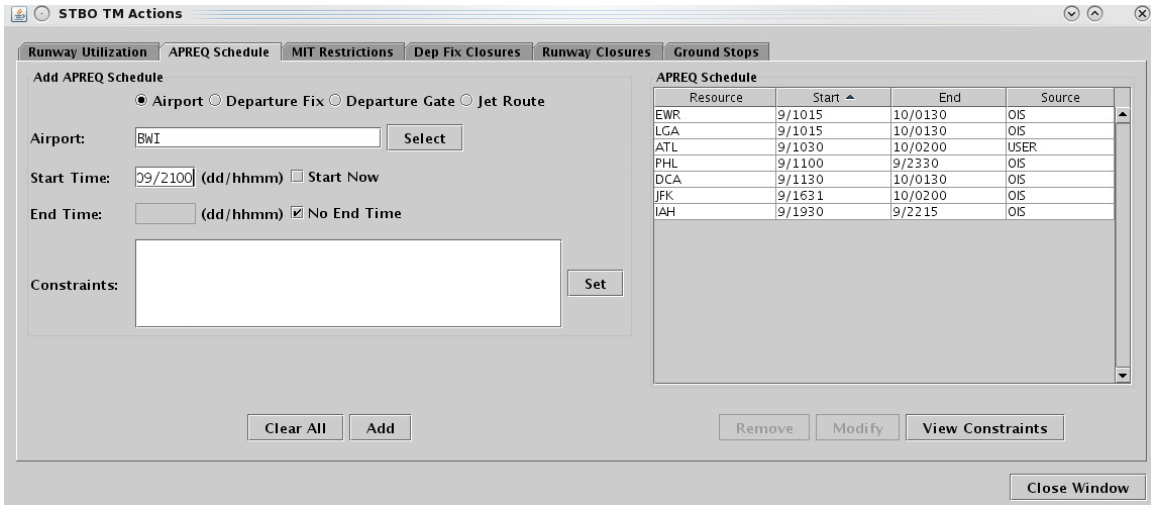

Figure 105. Select start and end times, constraints, and add the APREQ restriction.
**Step 4:** If the change is starting in the future, uncheck “Start Now” and enter a time in the “Start at” text box (Figure 105). Times must be entered in the (dd/hhmm) format. If the times crosses over 0000, the date must be changed. So, for example, if the current date is the 21st of the month and the Now time is 2330, when entering a start time of 0020, enter “22/0020” to input the new date as the 22nd of the month. An end time may be entered as well.